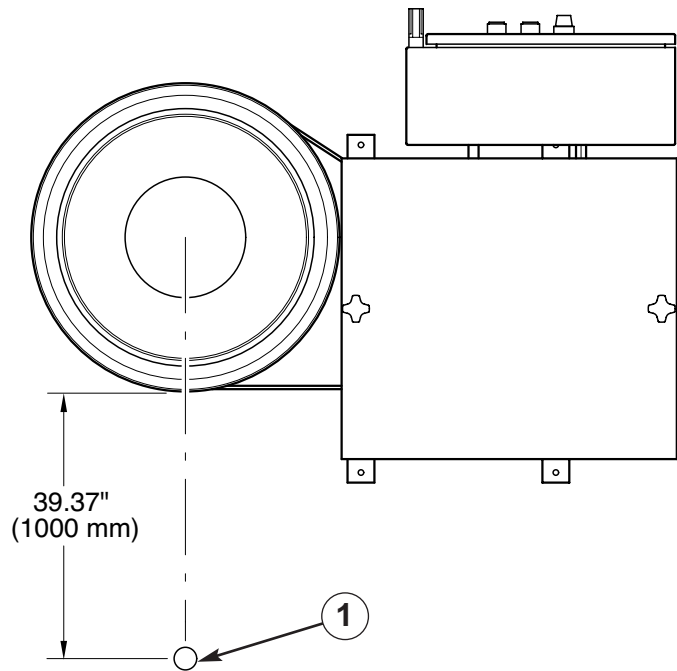

Figure 12 — Top view showing maximum sound position. (1) Measurement Position, 63" (1600 mm) from floor (machine feed height 63" from floor)
The amount of noise generated by this machine in use will vary depending on the type, condition and volume of product being cut, the size of cut, the operating speed, the distance the machine is positioned from the floor and the acoustical characteristics of the room in which the machine is installed. A machine in good condition will register approximately 81 dB(A) in a free field over a reflecting plane when run at high speed without product and set for 1/16" (1.5 mm) slices. Maximum sound position is measured at 63" (1600 mm) from the floor and 39.37" (1000 mm) from the machine. With the top of the feed hopper assembly at 63" (1600 mm) from the floor, maximum sound position occurs at a point near the feed hopper (Figure 12). Machines set for larger slices will generate less noise when measured under similar conditions.